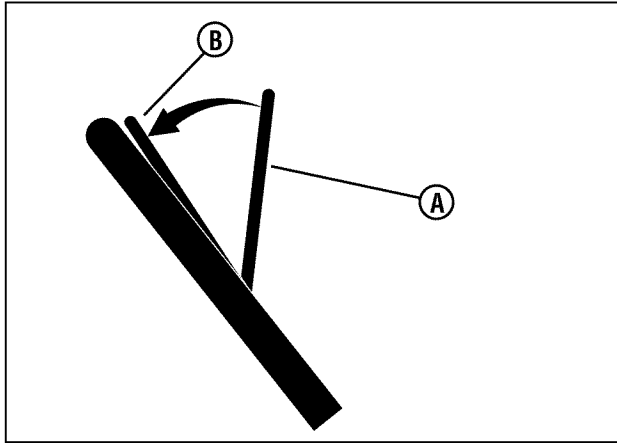

Figure 13: Operating the engine stop lever
Release the engine stop lever (**A, Figure 13**) and the engine and the blade will automatically stop. To run the engine, hold the engine stop lever in the Operating position (**B**).
1. Hold the engine stop lever (**A, Figure 13**) in the Operating Position (**B**).